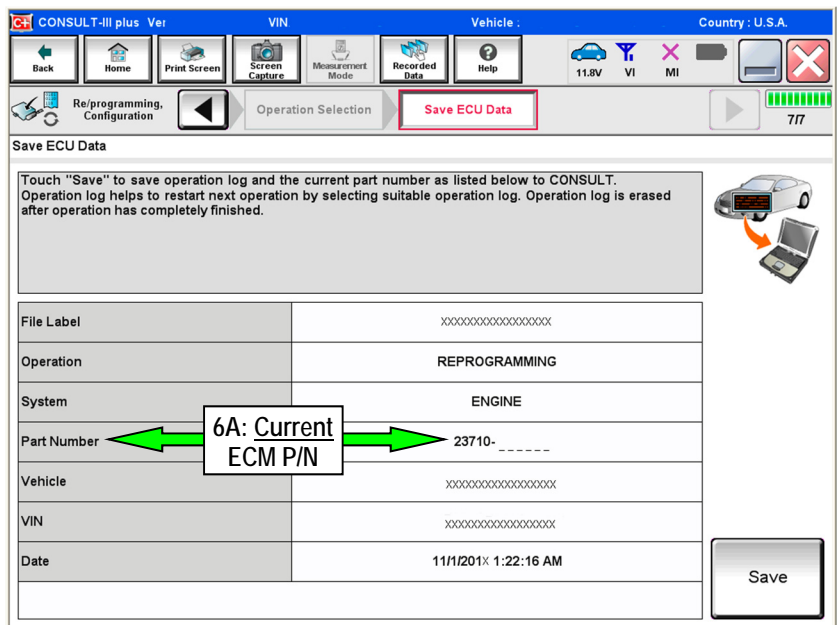

Figure 2
5. Follow the on-screen instructions and navigate C-III plus to the screen shown in Figure 2 on the next page.
6. When you get to the screen shown in Figure 2, confirm this bulletin applies as follows: